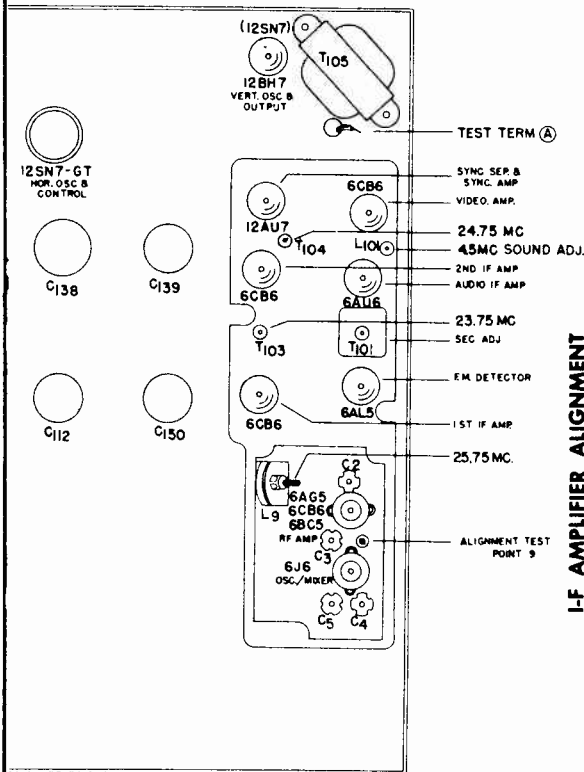

FIG. 3. TOP VIEW
SIGNAL GENERATOR FREQUENCY (NO MODULATION)	ADJUSTMENT (REFER TO FIG. 3)
1. Connect the signal generator output through a .005 mfd. capacitor from test point (A) to chassis ground. See Fig. 3.
2. Connect the VTVM from test point (B) to chassis ground.
5. Connect the VTVM from test point (C) to chassis ground and adjust the secondary of T-101 (top core) for a zero reading on the VTVM between a positive and negative peak. If the zero reading occurs at more than one setting, use the position nearest the top limit of the tuning slug.